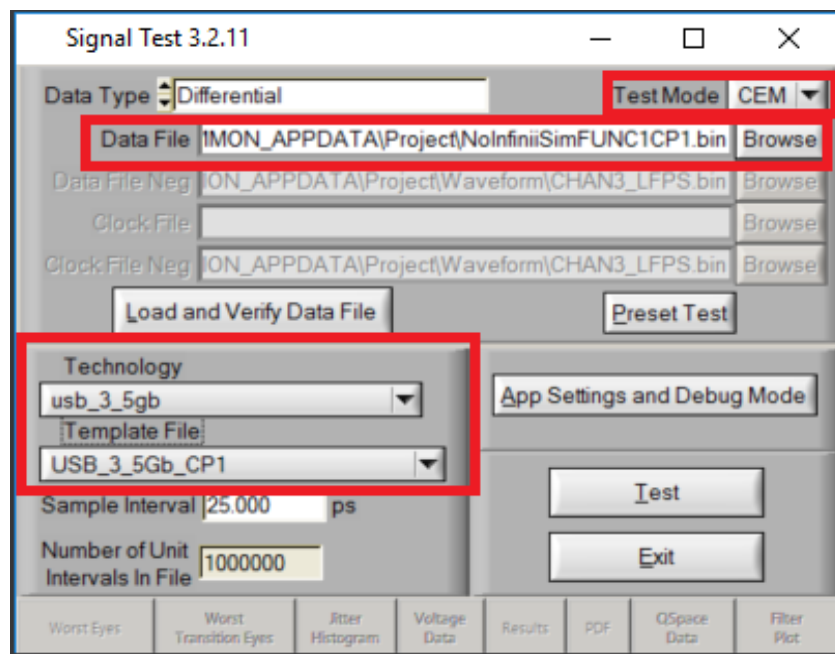

Figure 23 SigTest tool settings for measuring RJ
- 11 Load the waveform file. Select the options for Technology and Template File as shown in Figure 23.